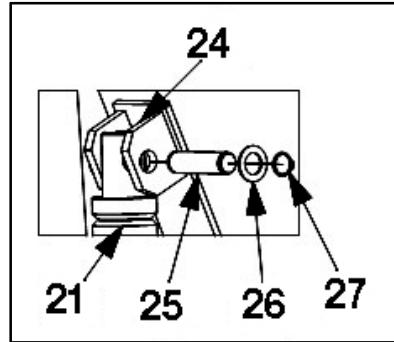

Fig. 10: Install cylinder retaining pin
6. Mount the rod end of the hydraulic cylinder [#21] to the cylinder mounting bracket [#24] located on the boom by aligning the cylinder's hole with the holes in the mounting bracket and insert the 3/4" upper cylinder retaining pin [#25] as shown in Fig. 10.